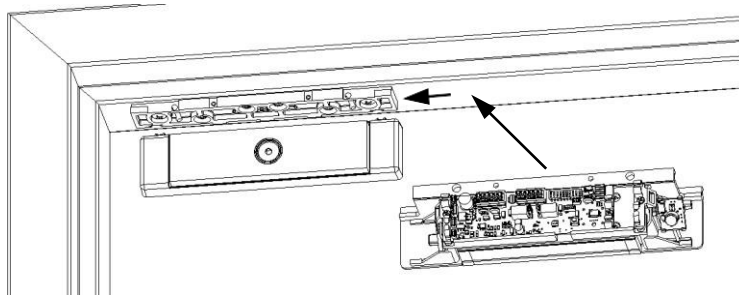

Figure 25. Assembling the Magnalock to the Bracket
2. SLIDE the lock onto the mounting bracket and TEST FIT against the strike plate with the door closed (see Figure 25, "Assembling the Magnalock to the Bracket").